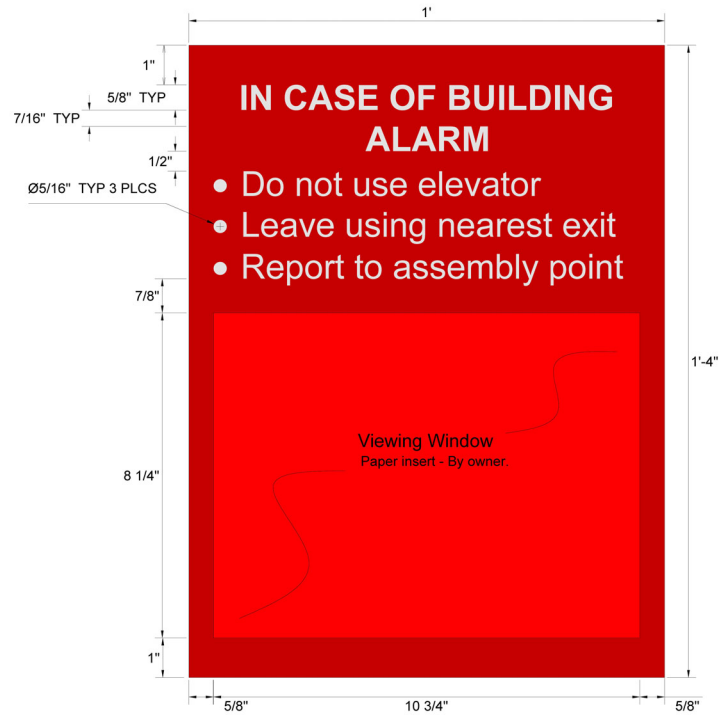

Figure 26.8
- 26.8. UMD H4 sign elevation shall comply with figure 26.8.